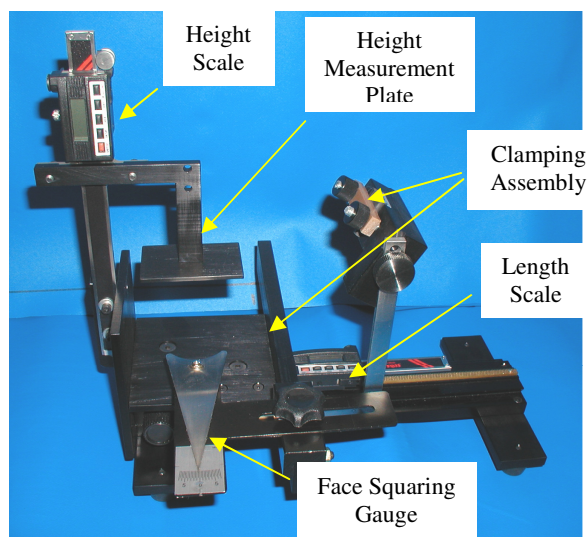

Figure 6.1–Clubhead Measurement Apparatus
6.1 Place the clubhead measuring apparatus, Figure 6.1, on a flat, stable surface.